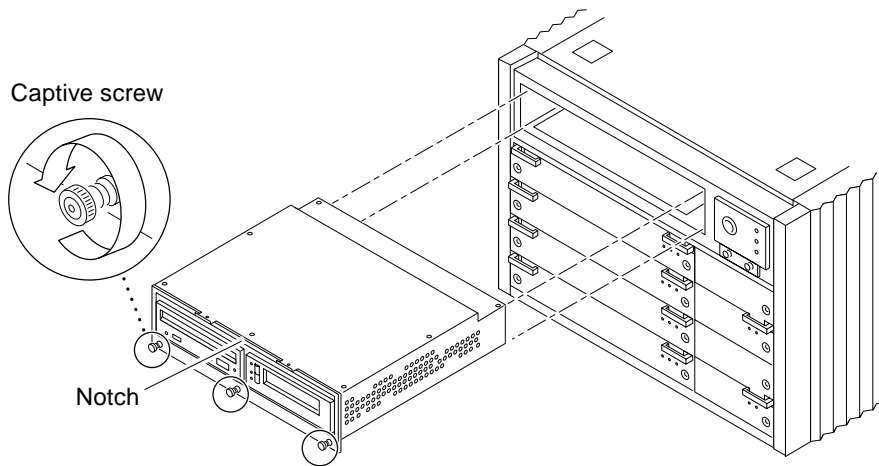

FIGURE 12-8 Removing the Media Tray
Insert a screwdriver in the notch at the top center of the media tray to pull out the media tray. (FIGURE 12-8).
3. Remove the seven screws on top of the media tray to lift off the tray cover to access DVD and tape drives (FIGURE 12-8).